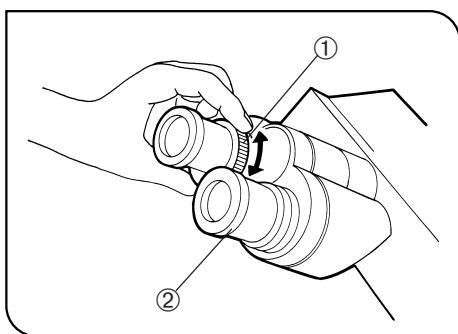

Fig. 25
(Figs 25 & 26)
2. Looking through the eyepiece with the diopter adjustment ring ①, turn it to focus on the specimen. (Fig. 25)
1. Looking through the right eyepiece with your right eye, turn the top of the eyepiece ② until a clearly defined double crossline can be seen in the field of view. (Figs. 25 & 26)
3. Looking through the left eyepiece with your left eye, turn the diopter adjustment ring ① to focus on the specimen.